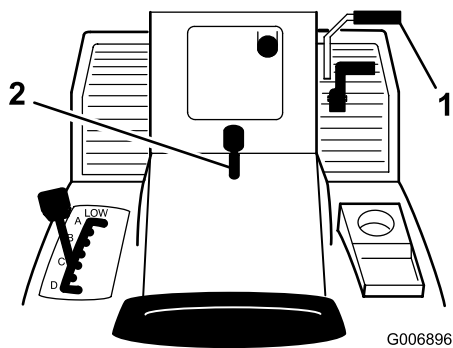

Figure 4
1. Push the brake pedal (Figure 4) down and hold it.
2. Lift the parking brake lever (Figure 4) up and gradually take your foot off of the brake pedal.
1. Push down on the brake pedal (Figure 4).